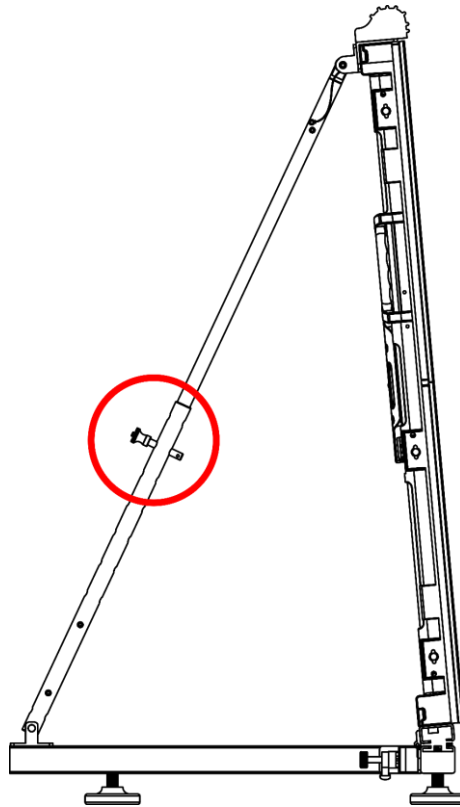

Fig. 24
- 04) Put the **inclination angle spring-loaded fast-lock (17)** into one of the 7 **inclination angle openings (16)** of the **extension tube (E)** (Fig. 24).